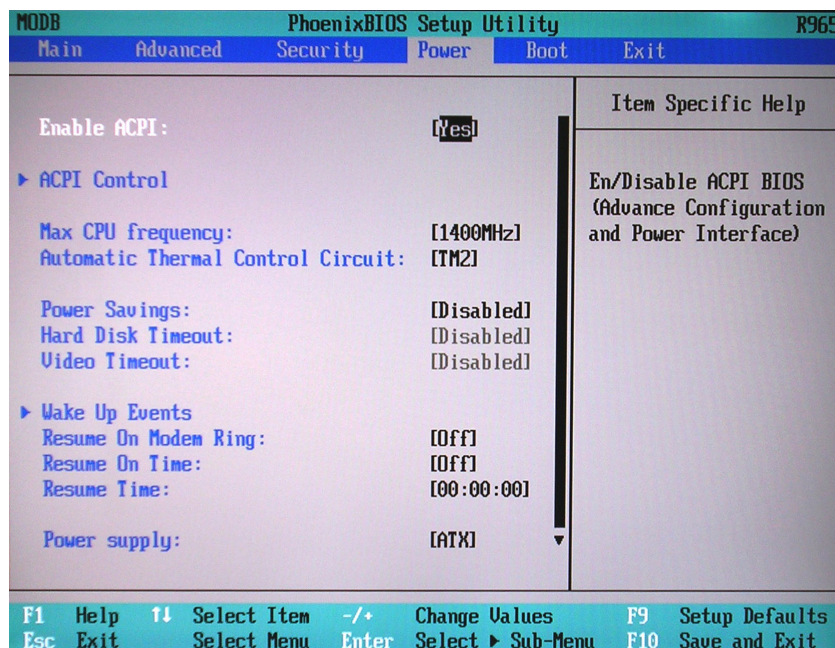

Figure 8-120 BIOS Power Parameters
Power	Figure 8-120 on page 8-116
- 6.) Set the parameters in the **Power** screen as shown above in Figure 8-120.